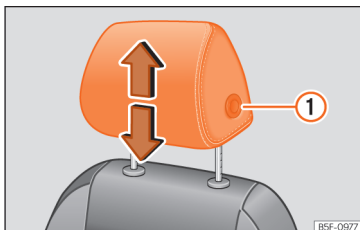
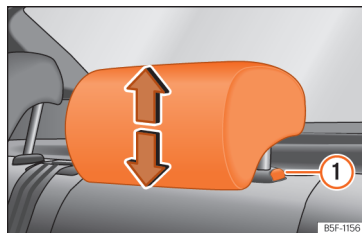

Fig. 72 Front seat: adjusting the headrest.
Fig. 73 Rear headrest: adjusting the headrest.
- Grab the sides of the headrests with both hands and push upwards to the desired position. To lower it, repeat the same action, pressing the button on the side ① »» Fig. 72 , »» Fig. 73.